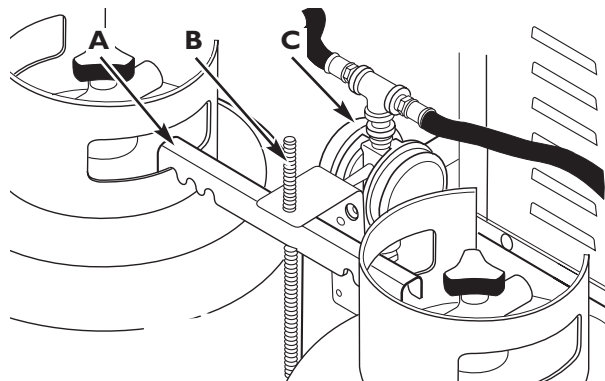

Figure 7 — Fuel Hose/Regulator Assembly Placement
4. Slide the fuel hose/regulator assembly over the threaded rod so that it faces the generator and rests on the hold-down bracket (see Figure 7).
4. Remove wing nut from threaded rod by turning it **COUNTERCLOCKWISE**. Lift and remove the fuel hose/regulator assembly from the threaded rod. See Figures 7 and 8.